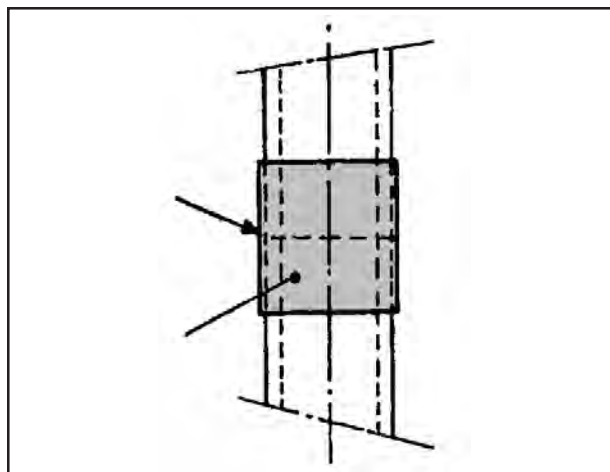

Figure 4-3 Connecting Sleeve
- For tubes made of several parts, do not forget to install the thermo formable connecting sleeve perpendicular to each junction (see Figure 4-3).